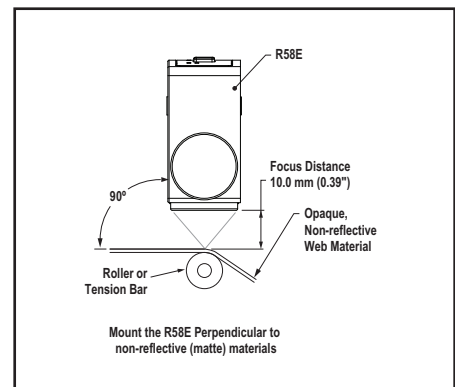

Figure 7. Mounting for sensing opaque non-reflective materials
- Whenever possible, it is a good idea to sense a web material at a location where it passes over a tension bar or roller, to minimize the adverse effects of web "flutter" or sag (Figure 7).